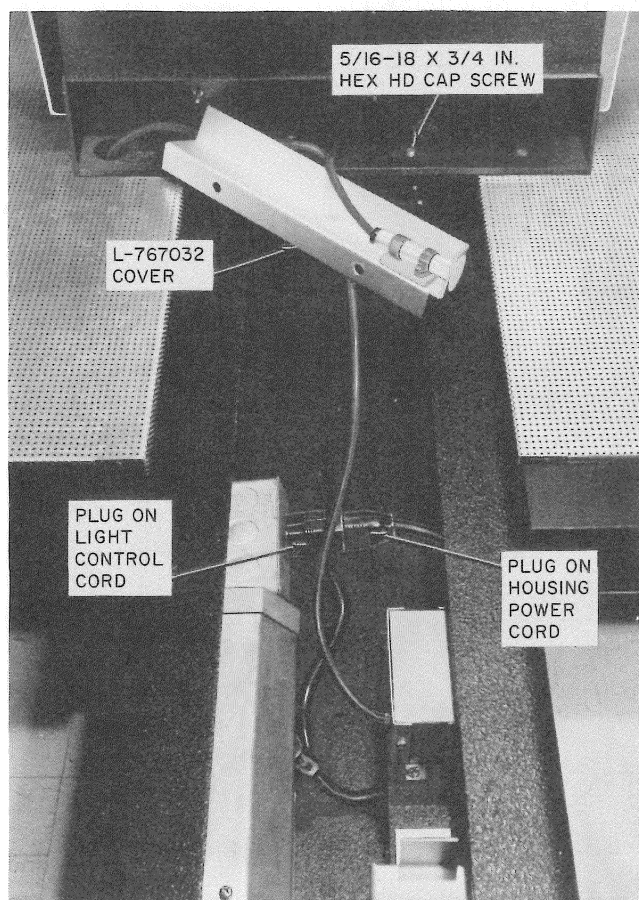

Fig. 22—KS-19261, List 4 Light Control Unit Installed With List 32 Housing
- (b) Remove the two nuts and washers from the L-767032 cover located under shelf (Fig. 22).
- (e) Plug the light control cord into the electrical outlet (Fig. 22).